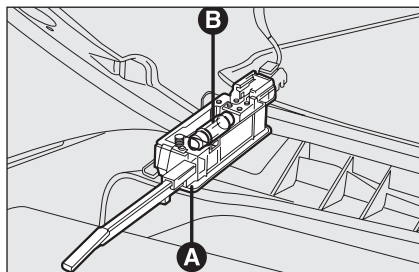

fig. 44
- ☐ open the glovebox, then remove the light unit **A**-fig. 44;